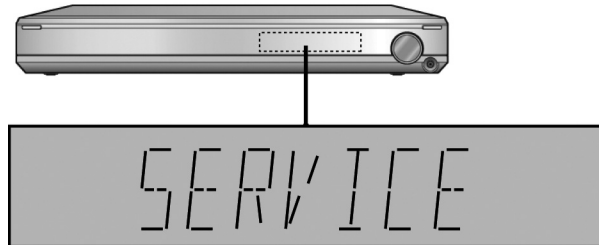

Fig. 1
2. The message, [SERVICE] appears on the display for three seconds, and then it will display the following. Refer to Fig. 1.